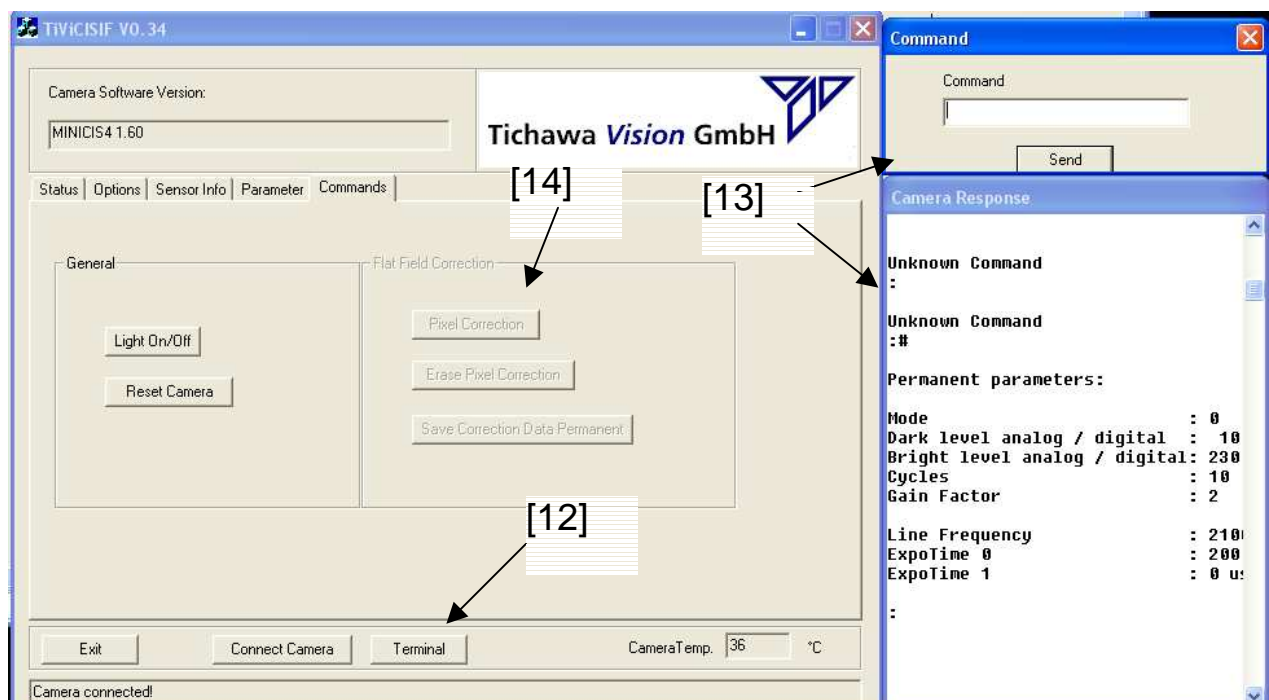

Figure 5 – Commands and Terminal
- l) The last menu is the command menu. Here it's possible to turn the light on/off and to reboot the camera. Also the terminal is over the terminal button [12] (figure 5) available where you could type in the commands directly. More about commands in 3.3 of the documentation. The terminal [13] (figure 5) works like a usally terminal software i.e. hyperterminal. The grayed-out buttons [14] (figure 5) are currently not available.